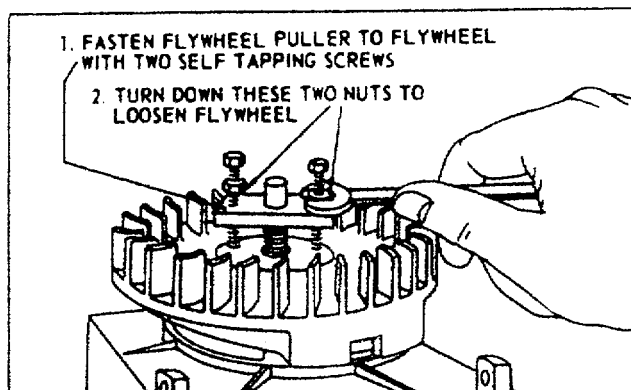

Figure 3-22. Pulling Engine Flywheel.
- (1) Disconnect armature wire (4) from elbow (6) and spark plug (7).
- (2) Disconnect other armature wire (12) from governor plate.
- (3) Bend tab back on breather to allow armature wire to be pulled away from engine (8).
- (4) Remove wire (12) from armature (5).
- (5) Remove two screws (3) and armature (5) from engine (8).
- (6) Use flywheel puller and remove flywheel (10) and key (11) from engine shaft (9) as shown in figure 3-22.
- (7) Remove elbow (6) and spark plug (7) from engine (8).
- (8) Remove stop switch (2) from blower housing (1).